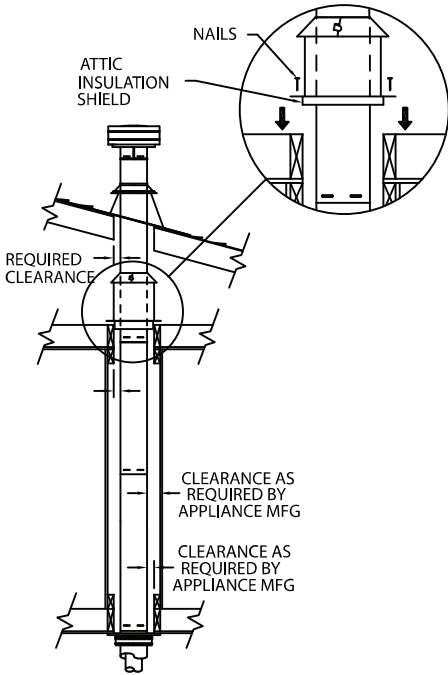

Figure 19
(1) For multi-story vertical installations, a Ceiling Firestop is required at the second floor, and any subsequent floors (**Fig. 19**). Refer to **Table 1, page 8**. Cut and frame a square opening for installation of the Ceiling Firestop.
(2) If Vent passes through any occupied areas above the first floor, including closets and storage spaces, it must be enclosed. The enclosure may be framed and sheetrocked with standard construction materials, but required clearances to combustibles must be maintained. Consult the appliance manufacturer's installation instructions for the minimum allowable clearance between the outside of the vent pipe, and the combustible surfaces of the enclosure. Do not fill required air spaces with insulation.
(3) If venting system passes through an attic space the Attic Insulation Shield or a chase enclosure must be installed to prevent contact between
Pipe Sections and the insulation or other debris. For the Attic Insulation Shield, nail the base to floor of attic and adjust shield for appropriate insulation level, then attach the collar at the top of assembly (*Fig. 19*). For a chase enclosure, it may be constructed out of sheetrock or similar building materials and framed around the support box or the pipe, maintaining the clearance to combustibles as required by the appliance manufacturer. For vaulted ceilings a chase enclosure must be constructed as the Attic Insulation Shield can not be installed.